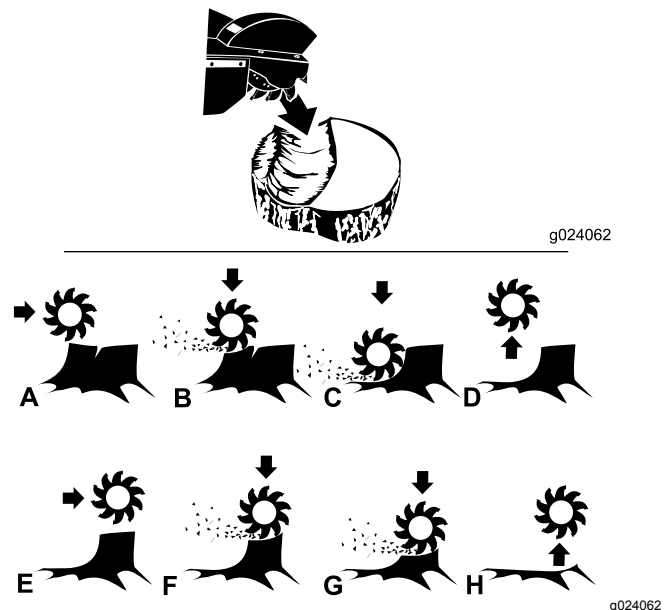

Figure 11
each sweep, until you have removed the front portion of the stump to ground level (A through D in Figure 11).
8. Repeat steps 5 and 7 until you have completely removed the stump (E through H in Figure 11).